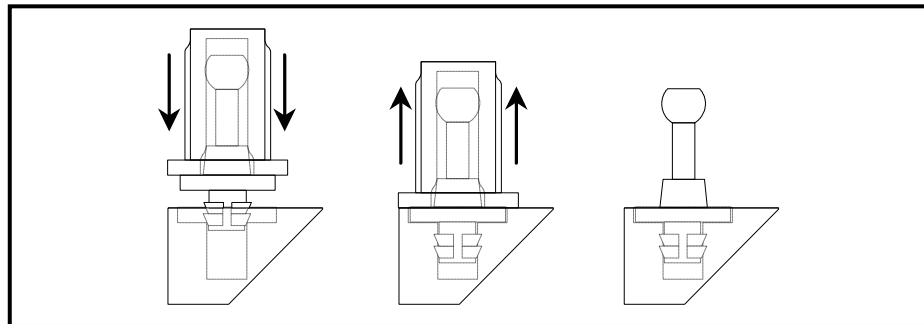

Figure 2.6 - Installing grille pin into The Vision grille frame. Note that after installation, the grille pin flange is flush with the surface of the grille.
- Place the exposed end of the grille pin in the open mounting hole. Check to insure that the grille cloth is not trapped between the pin and frame. Use a small hammer and gently tap the new grille pin in place. Then, pull the insertion tool off the new pin and verify that the pin flange is flush with the surface of the grille. Please refer to Figure 2.6.